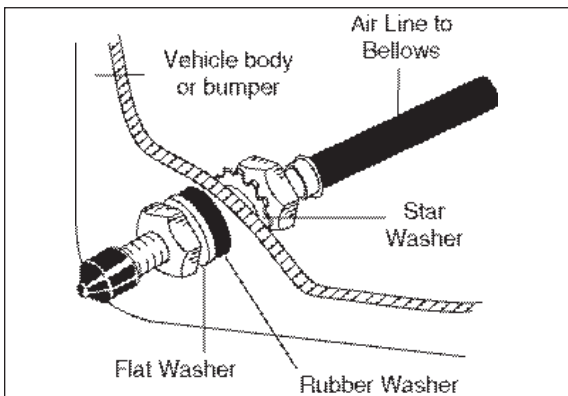

Figure 10
4. Cut the air line assembly (AA) in two equal lengths.
5. Install the inflation valves as shown in Figure 10.